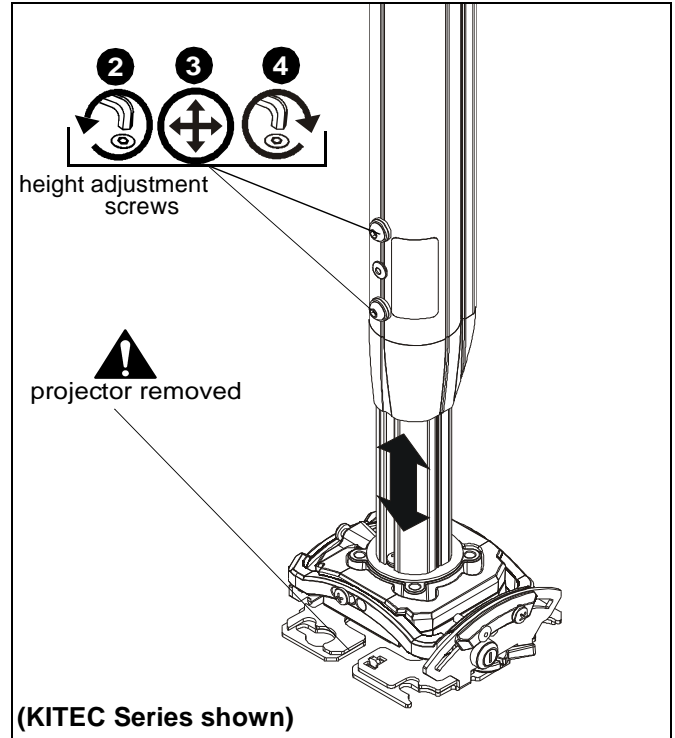

Figure 26
2. Loosen height adjustment screws. (See Figure 26)
3. While supporting the weight of the projector mount, adjust height as desired. (See Figure 26)
4. Tighten height adjustment screws. (See Figure 26)